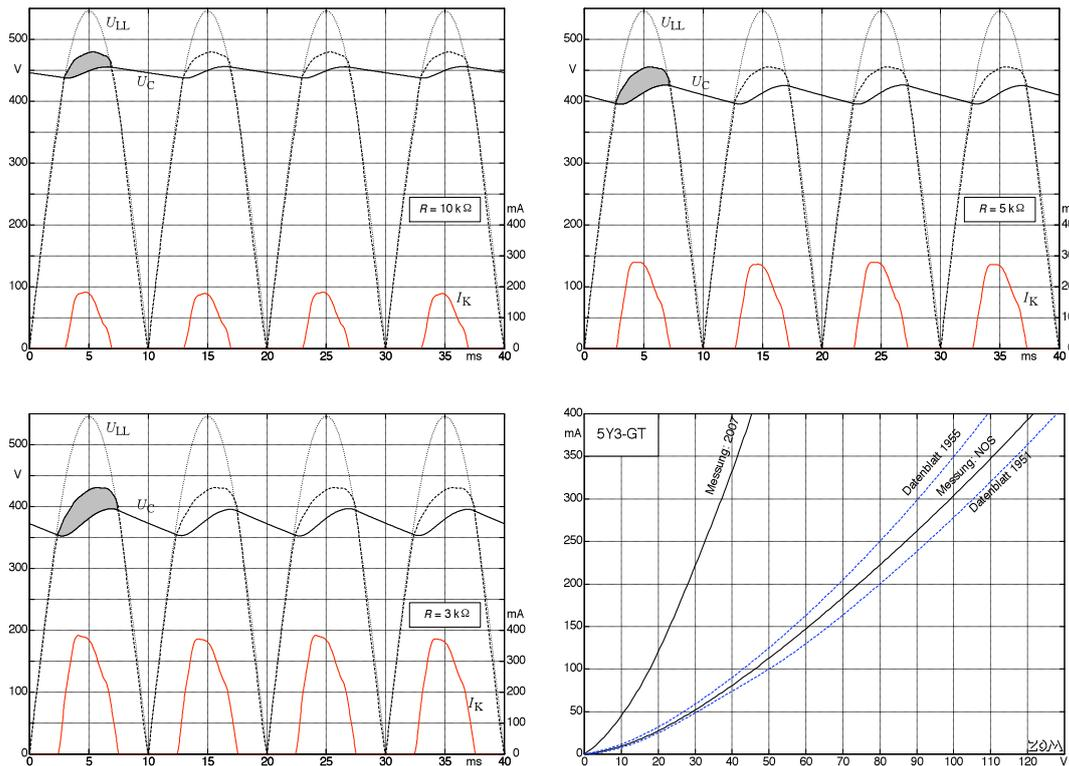

Fig. 10.7.3: TAD-Deluxe: voltages and currents for the full-wave tube-rectifier; $C_L = 10 \mu\text{F}$.
In the following, **measurements** taken from amplifier power-supplies will be introduced – a *calculation* would be possible, as well, but requires a lot of effort because both the mains transformer and the rectifier are non-linear components. As a first example, we will look into the power supply of the TAD-Deluxe kit. It uses the **5Y3-GT** as a rectifier tube; according to the datasheet, it has to make do with a 10- μ F-filter-cap. For the measurements, this filter-cap was loaded with 10, 5 and 3 k Ω – the corresponding charge-current amounts to 45, 85, and 130 mA, respectively, and the peak current through the diodes amounts to 180, 280, and 380 mA, respectively (**Fig. 10.7.3**).
As is easily seen, the relationship of peak-current to average current is no bigger than a factor of 2 – mainly due to the mains transformer at work here. Its secondary windings have a DC-resistance of 225 Ω , and thus the voltage breaks down strongly under load, and the angle of current-flow is relatively large. The thin line in the figure belongs to the open-loop transformer-voltage; depicted below it is the voltage under load. The voltage across the filter cap oscillates up and down in the shape of a saw-tooth wave; the forward-voltage of the tube is highlighted in grey. For the measurements, a rectifier tube of recent production was used; it shows a voltage drop in flow-direction of 30 – 40 V. In the U/I-diagram, two old datasheet-curves are entered with a dashed line, and in addition a measurement curve taken with an RCA NOS tube. **NOS = new old stock**: this designates tubes that have been remained unused on the shelf for decades, and which now are deployed for the first time. A tube with a voltage-drop of more than 100 V in the flow direction will indeed help the amplifier to a different operational behavior: the supply-voltage collapses even further than shown in Fig. 10.7.3. If this “sagging” is, in fact, desired, but no NOS-tube is available: a 200- Ω -resistor will do the same job.
The curves shown in Fig. 10.7.3 indicate that the data of a tube-type may not be simply taken from *one* datasheet. First, there are manufacturer-specific idiosyncrasies, and second, the production methods were always subject to an ongoing change. On the other hand, the almost inflationary multitude of designation letters (5Y3-G, -GT) often merely refers to differences in the glass container and not to electrical data. From this point of view it may be justified to ask horrendous prices for certain old tubes – tubes from today's production indeed do have different data. However: there are reports that it may be very easy to have any desired tube replicated even in relatively small numbers by the gentleman with the name consisting of merely two letters*. At least as far as the cosmetics are concerned: perfect! Even the old GEC-sticker is superbly imitated. Okay ... the electrical data ... well, you can't have everything, can you? Back to the roots ... or to revenue. Revenue, mostly, though, 'cause the NOS-tube built for 5 \$ can easily be sold for 50 \$ via the internet (*foun in grandads atic no garratee*). The odd tube will bring in excess of 500 \$ – here the financial suffering alone will automatically take care of an "unparalleled sound experience". At least for rectifier tubes, such escapades are not required from the point-of-view of physics: any characteristic may be approximated with a few diodes and a few resistors.
* The RCA-tube measured in Fig. 10.7.3 was not sourced there - it could be located in the basement of the author's home.